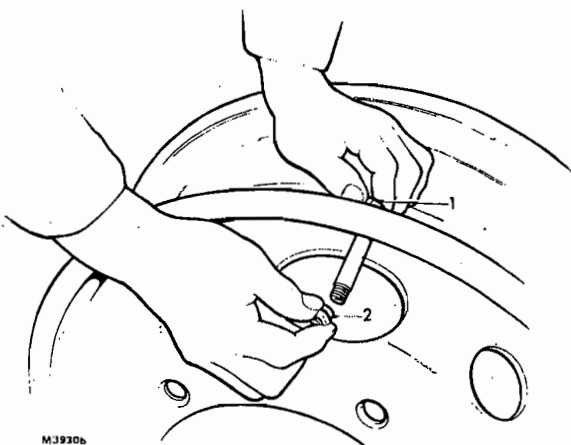

FIG. 5. FITTING VALVE STEM
1. Fit the valve stem to the rim ensuring that the locking nut is correctly fitted with the barrel towards the rim, Fig. 5.